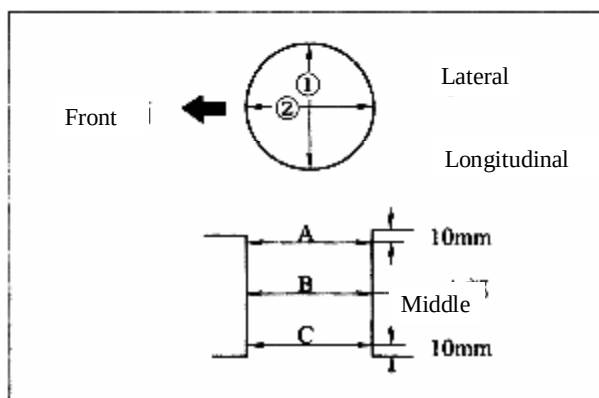

Figure 3-25 Measurement of Cylinder Bore Diameter
3.2.6 Measure inner diameter of each cylinder bore. Measuring position and direction see Figure 3-25. Nominal diameter of cylinder bore is $\Phi 91.00 \sim \Phi 91.03 \text{mm}$. See Table 3-1 for diameters of cylinder bore groups..